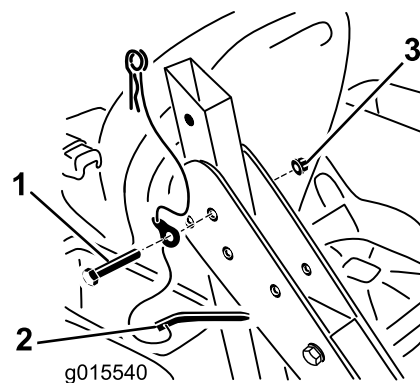

Figure 7
3. Attach the rollbar to the rollbar supports as shown in Figure 7. Leave the bolts just loose enough to allow the rollbar to freely pivot.